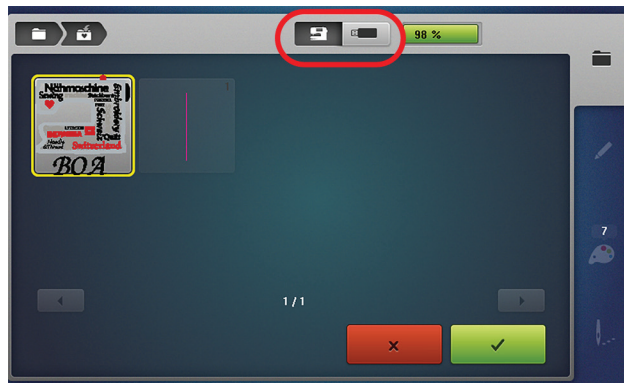

Fig. 33
6.  Close the Information Menu. In the Selection Menu, select Save a Motif. At the top of the menu (Fig. 33), select either the: